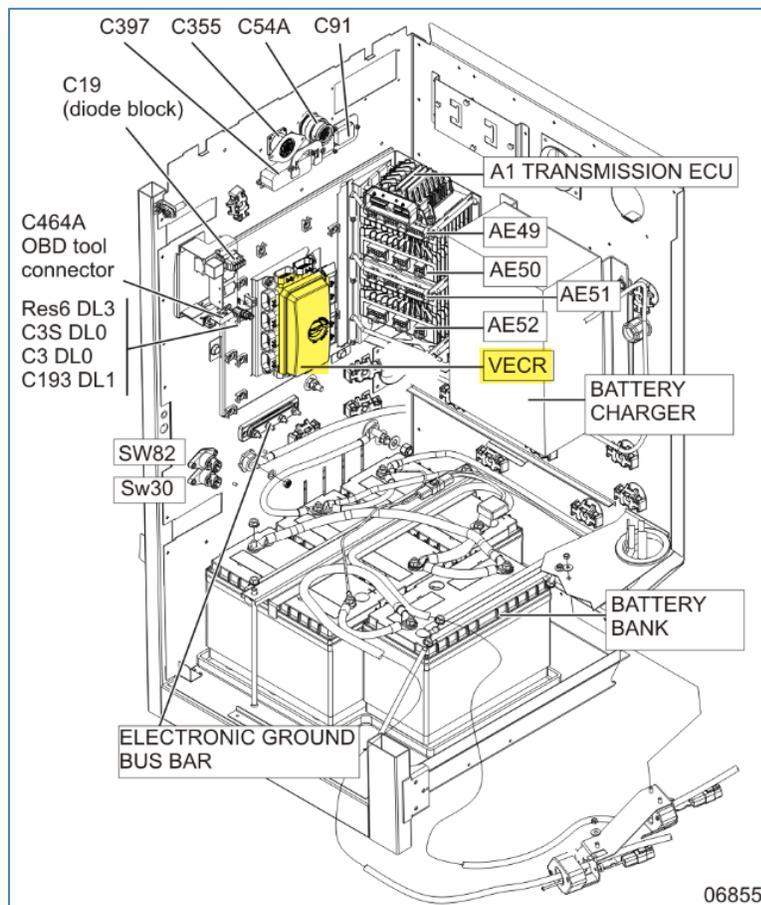

FIGURE 9
9. In the VECR (inside main power compartment), replace fuse F123 with a 15-amp fuse 563284 (Figure 9).
10. In the VECR, replace fuse F124 with a 15-amp fuse 563284 (Figure 9).